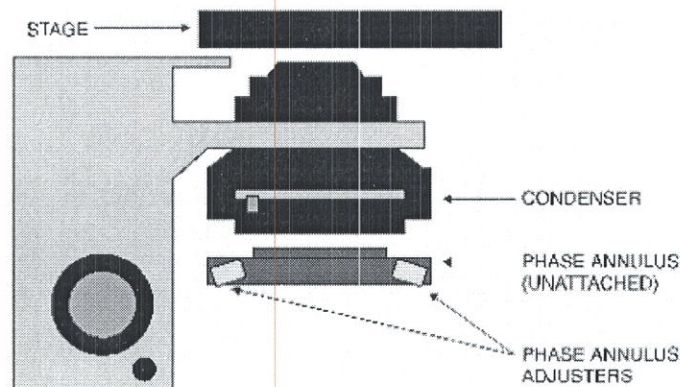

Figure 6-7. Phase Annulus Installation
3. Hold the phase annulus so that the nose or elevated portion is facing up and the silver phase annulus adjusters are pointing away from the IVOS II as shown in Figure 6-7.